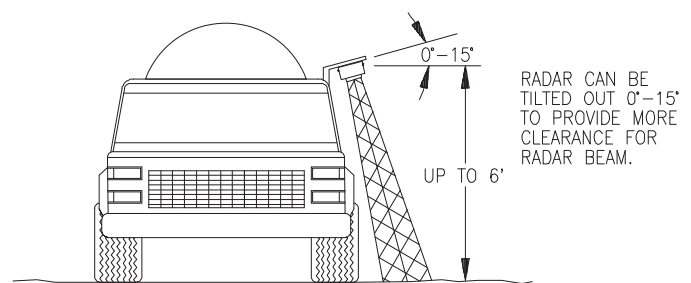

FIGURE 2
Press the seal seat into the adapter firmly and squarely. Be sure the two grease holes in the seal seat are turned 90° from the grease hole in the adapter casting. (See Fig. 2).
- b) The radar lens must be parallel to the ground from front to back. Radar can be tilted out 0-15 degrees to provide more clearance and miss obstructions. See Figure 2.